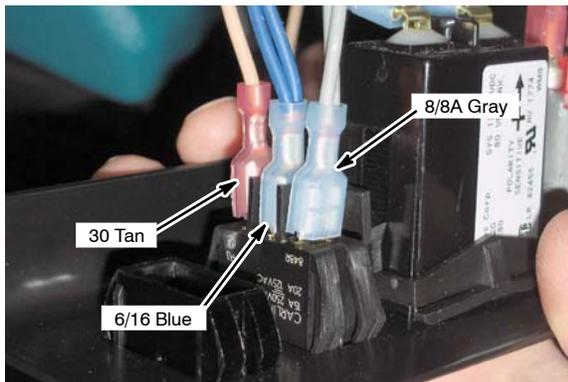

Fig. 27
- Connect wires 8/8A Gray, 6/16 Blue and 30 Tan to the *ec-H2O* on/off Switch as shown (Figure 27).